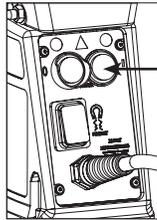

Figure 11
2. Depress red motor "OFF" button. Wait until motor completely stops. **(Figure 11)**